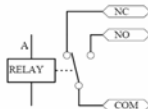

Figure 3
3. Electric lock interface (See Figure 3)